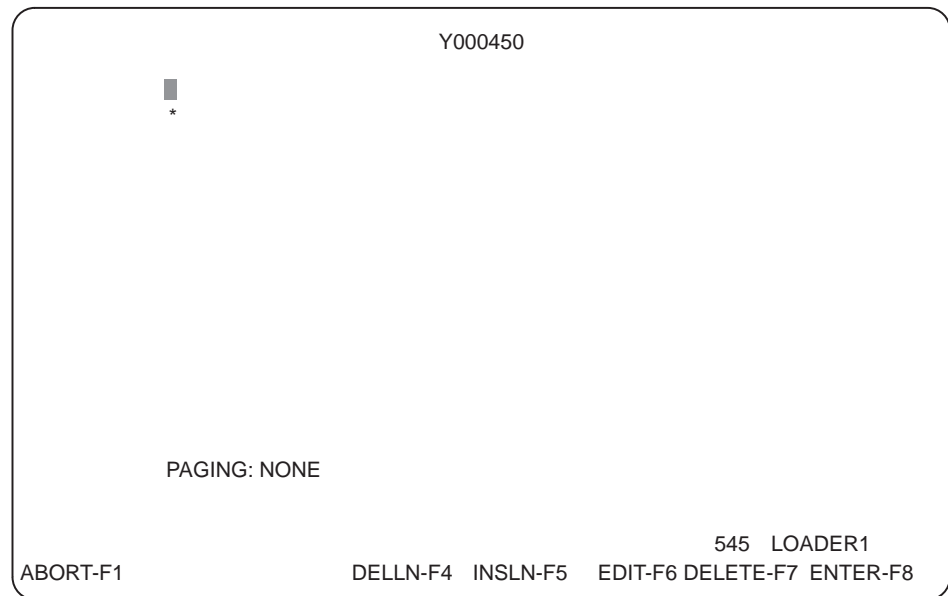

Figure 9-4 Comment Editor Menu
3. Press **Return** to go to the Comment Editor Menu, Figure 9-4.
4. Press **[Return]** to go to the Comment Editor Menu, Figure 9-4.
After you select the element for comment, the Comment Editor Menu (Figure 9-4) is displayed with function keys for editing.
When the Comment Editor Menu (see Figure 9-4) is displayed, the cursor is positioned at the starting point for a comment. Type in your comment for the selected element. The following keys are available for editing: